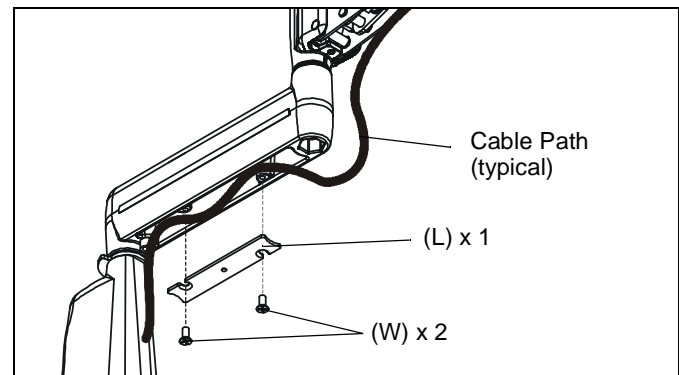

Figure 45
5. Carefully insert cables in cavity located in lower portion of mount arm. (See Figure 45)
6. Using Phillips screwdriver, install cover (L) with two #8-32 x 3/8" Phillips flat screws (W). (See Figure 45)